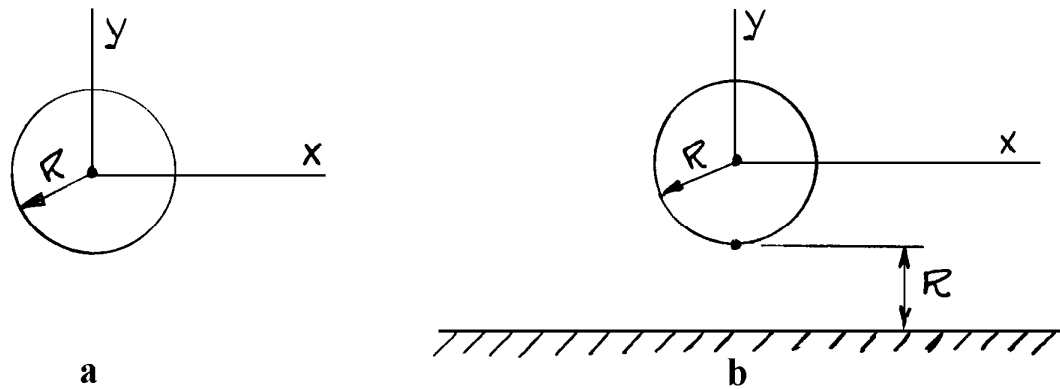

Figure 0.1: Horizontal Cylinder
- b) The cylinder is located in a uniform flow without any boundaries; see figure 0.1-a. What is the velocity along the cylinder surface at $x = 0$ and $y = \pm R$?
- c) The cylinder is located on a constant distance R above the sea bed; see figure 0.1-b. What is the velocity along the cylinder surface at $x = 0$ and $y = \pm R$?